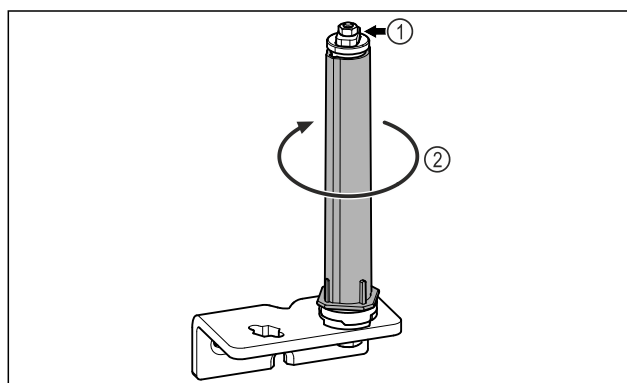

Fig. 18
- Do not disassemble the door locking system Fig. 18 (1).
- Turn the locking system *Fig. 18 (2)* until it clicks.